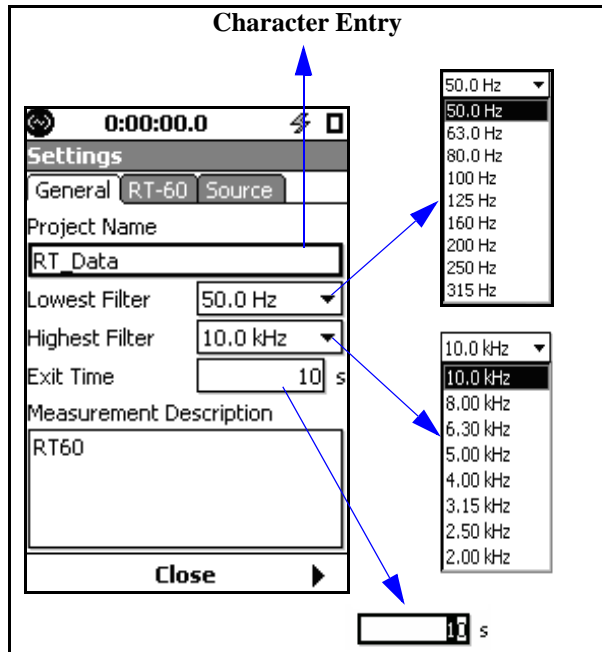

FIGURE 15-29 General Settings
*The Trigger Source will also be limited to be between the Lowest and Highest filters (inclusive) as set on the **General** Tab shown in FIGURE 15-29.*